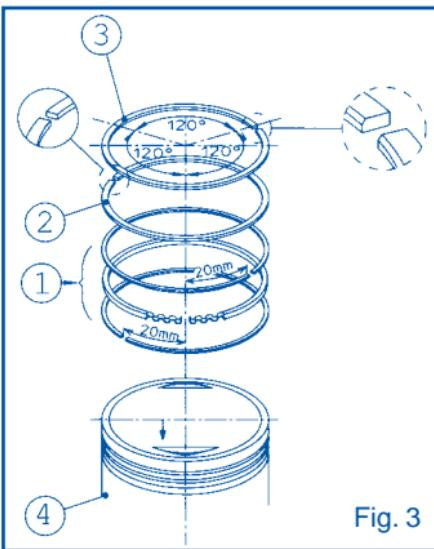

Fig. 3
- Fit the scraper ring expander in the special piston groove, then complete the scraper ring assembly by fitting first the lower and then the upper scraper ring (Fig. 3 - Part 1).
- Fit the second piston ring with the printing turned towards the piston crown as indicated in Fig. 3 - Part 2.
- Insert the first chromed compression piston ring with the printing turned towards the piston upper part as indicated in Fig. 3 - Part 3.
- Position the piston rings openings as shown in Fig. 3.
- Recheck that the piston rings openings are positioned as shown in Fig. 3.